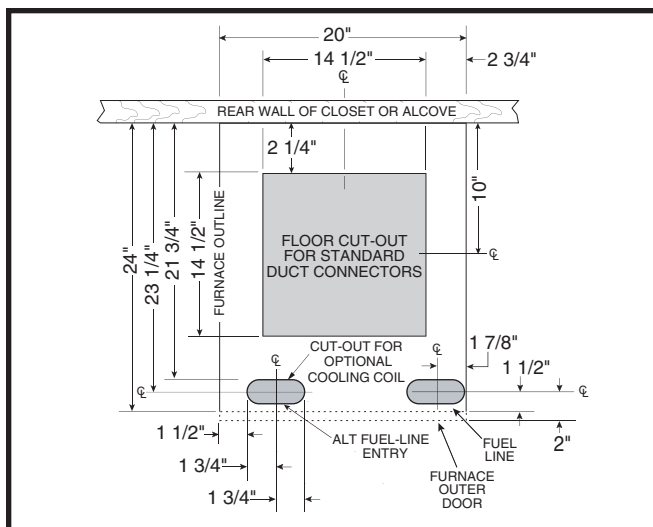
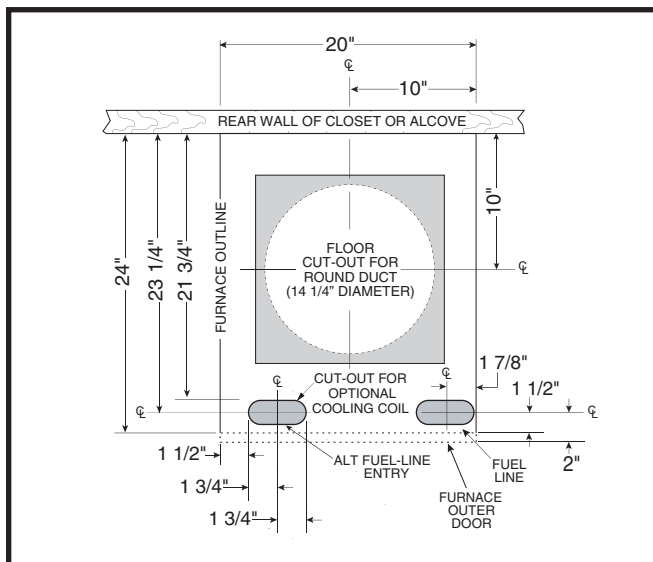

Figure 7. Cut-Out Dimensions for Standard Duct Connectors
Figure 8. Cut-Out Dimensions for Round Duct Connectors
Floor cut-outs and fuel line holes must be carefully located to avoid misalignment of the furnace, and vent piping. To locate standard ducts see Figure 7 \(page 8\). For round ducts, see Figure 8 \(page 8\).
2. Using the centerline as a starting point, draw the rest of the duct cut-out to the dimensions shown in Figure 7 or Figure 8.
6. Measure and drill gas hole and cut out for cooling coil (if applicable). See Figure 7 or Figure 8.